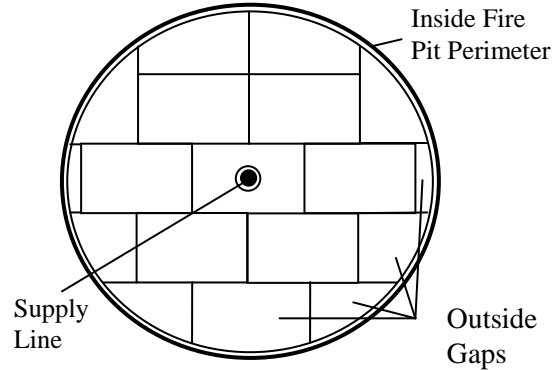

Fig. 3
- 4) Cut brick pavers to fill all outside gaps. See Fig. 3 and 4.
- a. If ventilation holes for the fire pit are located on the bottom of the enclosure wall, do not block- reference “Deck Insulation Kit – Install” for instructions. (Fig. 3)